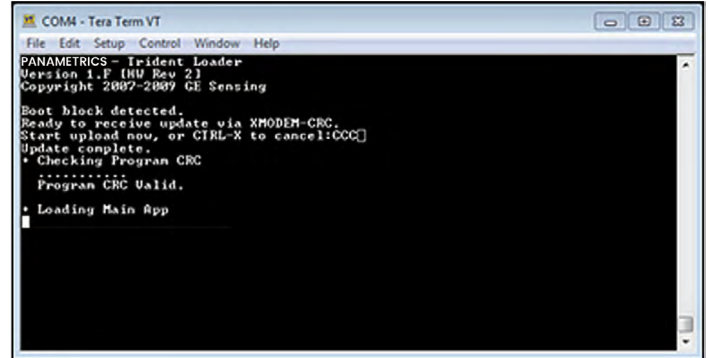

Figure 81: Update complete message in Tera Term
- After the file transfer is complete, the *Tera Term* terminal window will appear as in *Figure 81* on page 81, and the meter will start up.